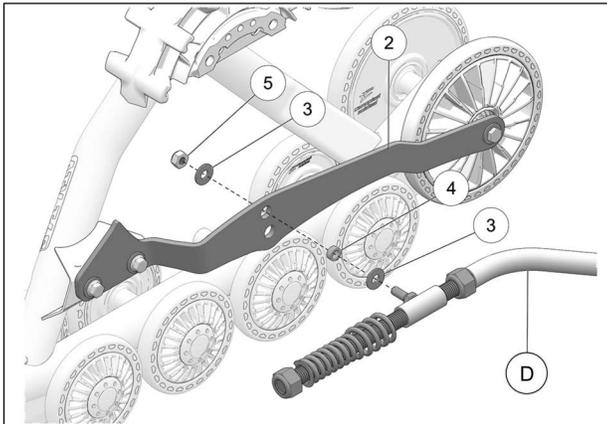

Fig. 11
9. Attach the rear suspension stabilizing rod (D) to the undercarriage bracket (2) using washers (3), bushing (4) and nut (5). Use upper hole. Torque nut to 50 Nm [37 lb•ft]. See Fig. 11